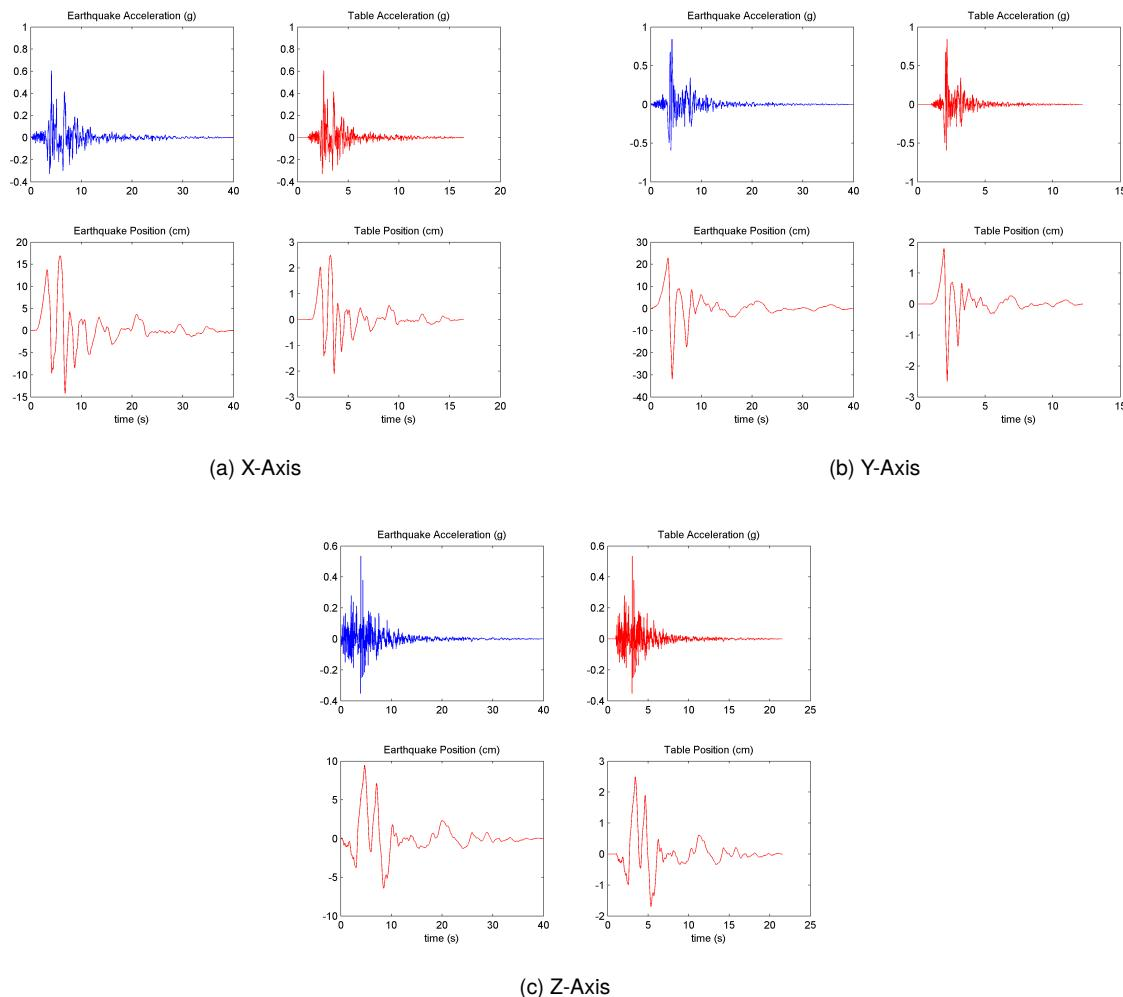

Figure 4.1: Northridge earthquake plot created by make_quake_xyz.m script
5. Run the make_quake_xyz.m script (click on Debug | Run in the Editor menu bar or on the *Run* icon in the Editor tool bar) to generate the earthquake wave. This will generate a plot similar to Figure 4.1. The desired acceleration and recorded earthquake acceleration is shown in the top plot (in gravitational units) and the scaled position setpoint in the bottom plot (in centimeters).